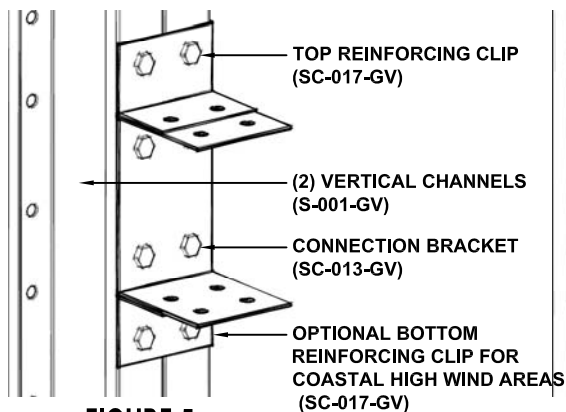

FIGURE 5
1. **Figure 5 - Interior Structural Connection Detail - Top Reinforcing Clip (SC-017-GV), Connection Bracket (SC-013-GV) and Bottom Reinforcing Clip (SC-014-GV) (for coastal high wind areas) all connected with $\frac{3}{8}$ " bolt/nuts. Interior support shown. ALWAYS INSTALL THE TOP REINFORCING CLIP (SC-017-GV).**